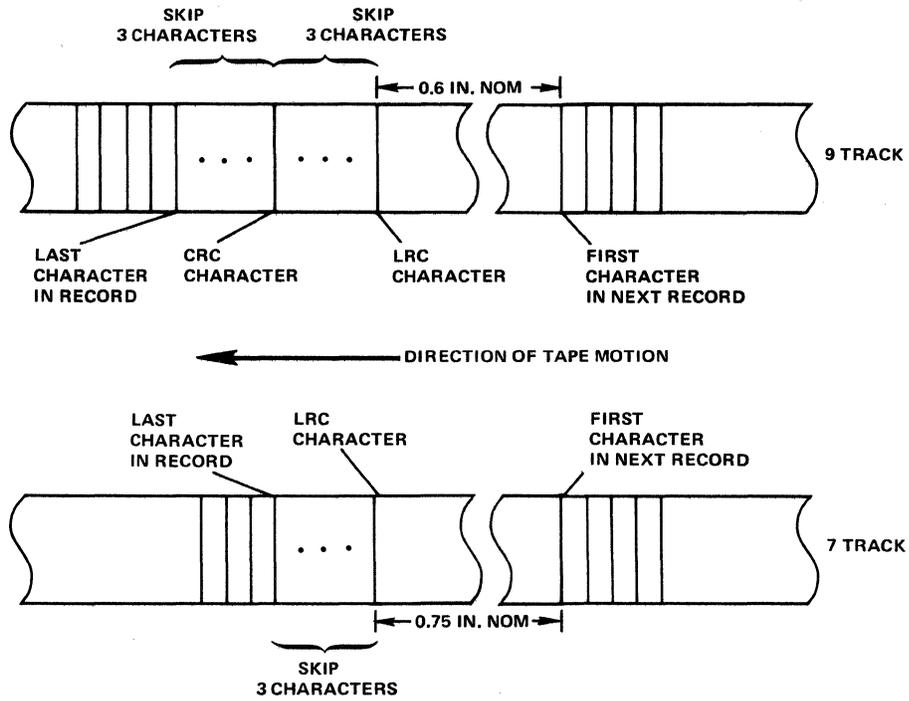
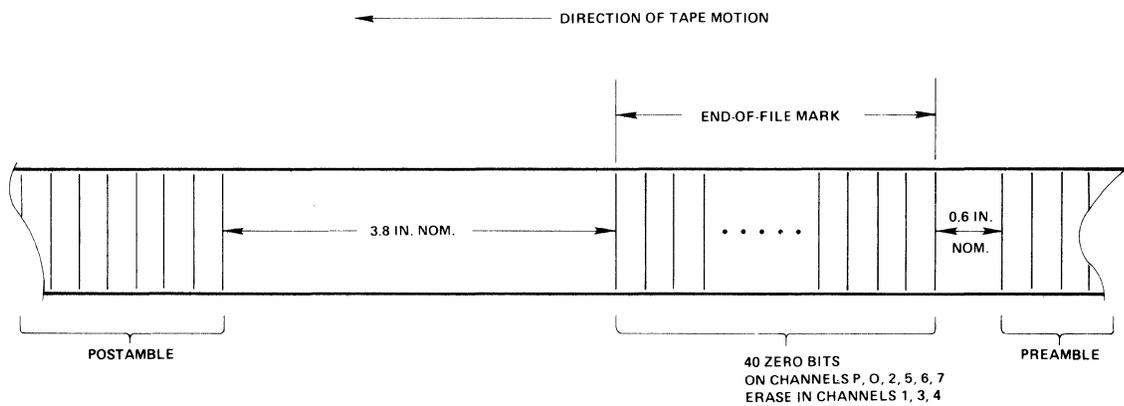

Figure 3-6. End-of-Record Mark Formats for 7 and 9 Track NRZI Tapes
Figure 3-9. End-of-File Mark for PE Tapes
The data is formatted and recorded on the tape in blocks referred to as records. The exact configuration of a record depends on whether the tape is in 7 or 9 track format. On 9-track tape, each record consists of the data, a cyclic redundancy check (CRC) character, and a longitudinal redundancy (LRC) character. The CRC character must occur four character times after the final data character, and the LRC character must occur four character times after the CRC. A minimum spacing of 0.5 inches is required between records. The end of a record is shown in figure 3-6.
On 7-track tape, each record consists of data, followed by an LRC character only, as shown in figure 3-6. Minimum spacing between data records is 0.6 inches.
Standard end-of-record and end-of-file mark formats that are used for NRZI recording are shown in figures 3-6 and 3-8, respectively. The corresponding preamble and postamble for PE recording is described in paragraph 3-12 above. The end-of-file mark for PE recording is shown in figure 3-9.
- e. After the last character in the record is written, the formatter will gate the proper CRC, LRC, as they are shown in figures 3-6, 3-8 and 3-9.